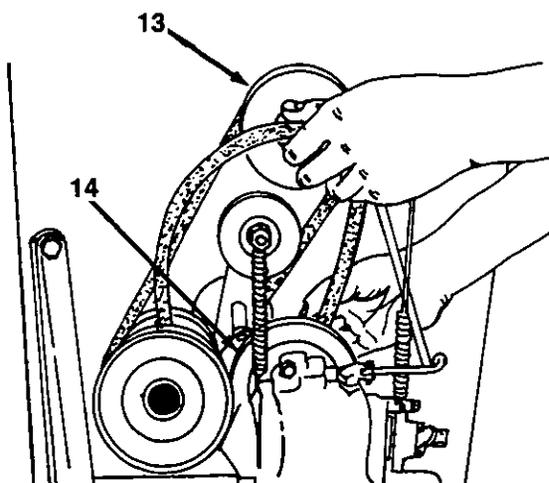

FIGURE 6.
8. Slip the "V"-belt off the variable speed pulley and transaxle pulley. See figure 6.